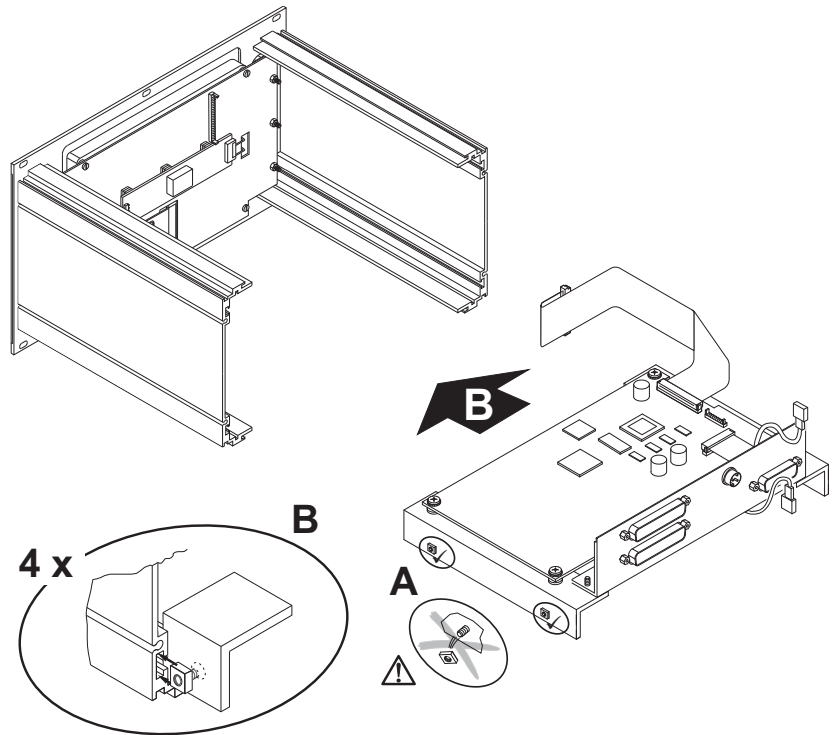

Fig. 8-7: Remounting of the main pcb unit and the connector panel
10. Take the main pcb unit and check that the square nuts are loosely screwed to the fastening screws of the angle profiles (A) but that they are not dropped off. Align the flanges of the nuts parallel to the flanges of the angle profiles. Place the angle profiles from inside to the guide tracks of the side panels. Carefully move the main pcb unit inside without canting. Feed the square nuts into its tracks (B). Take care: the nuts have not to be unscrewed! (Fig. 8-7)